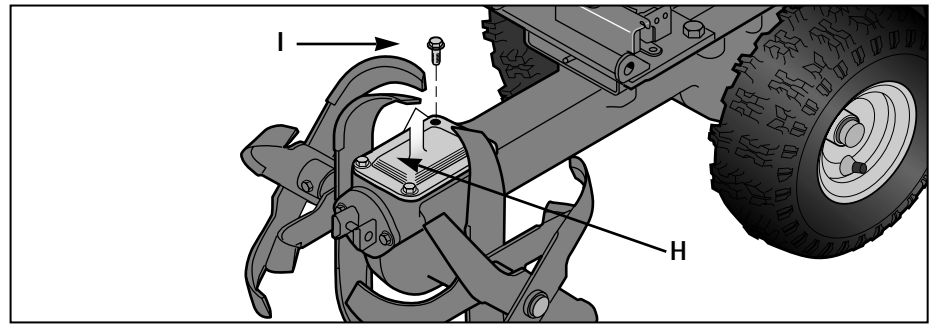

Fig. 5-2: Remove transmission top cover to check the level of gear oil.
Every 25 hours of operation (and at the beginning of the tilling season), check the gear oil level in the transmission housing (see Fig. 5-2).
3. Clean around the top cover (H, Fig. 5-2) before removing the four cover screws (I, Fig. 5-2). Loosen the cover by gently